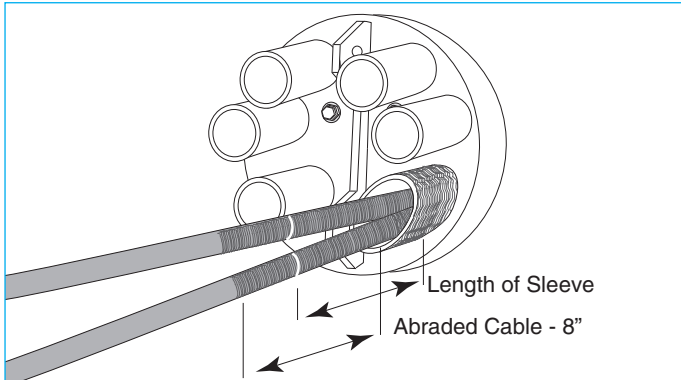

Figure 29.
- 9.4.1 Clean the port and 8" of cable sheath beyond the port edge with cleaning tissue. (Figure 29)